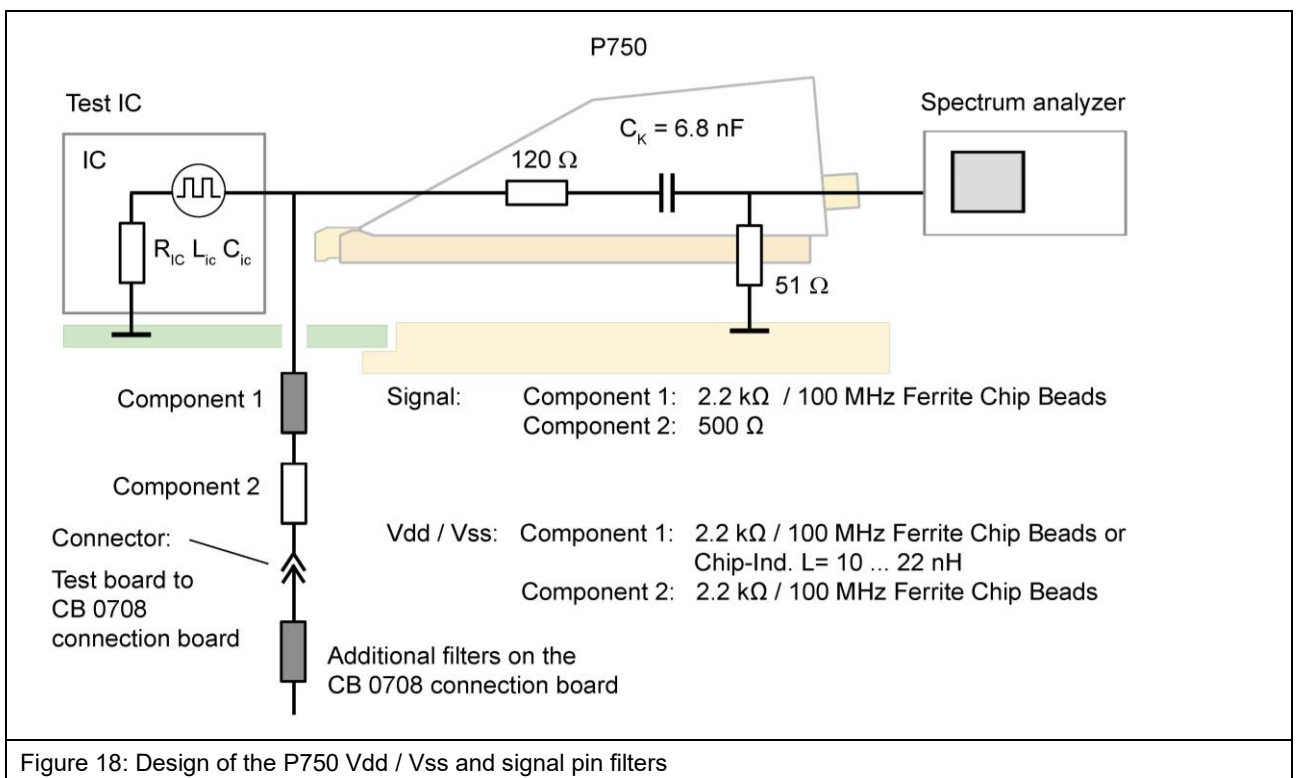

Figure 18: Design of the P750 Vdd / Vss and signal pin filters
**Figure 18** shows the design of the Vdd / Vss and signal pin filters which are located on the bottom of the test board. Please refer to the “IC test instructions” for a guideline IC EFT immunity on how to set up a test board.